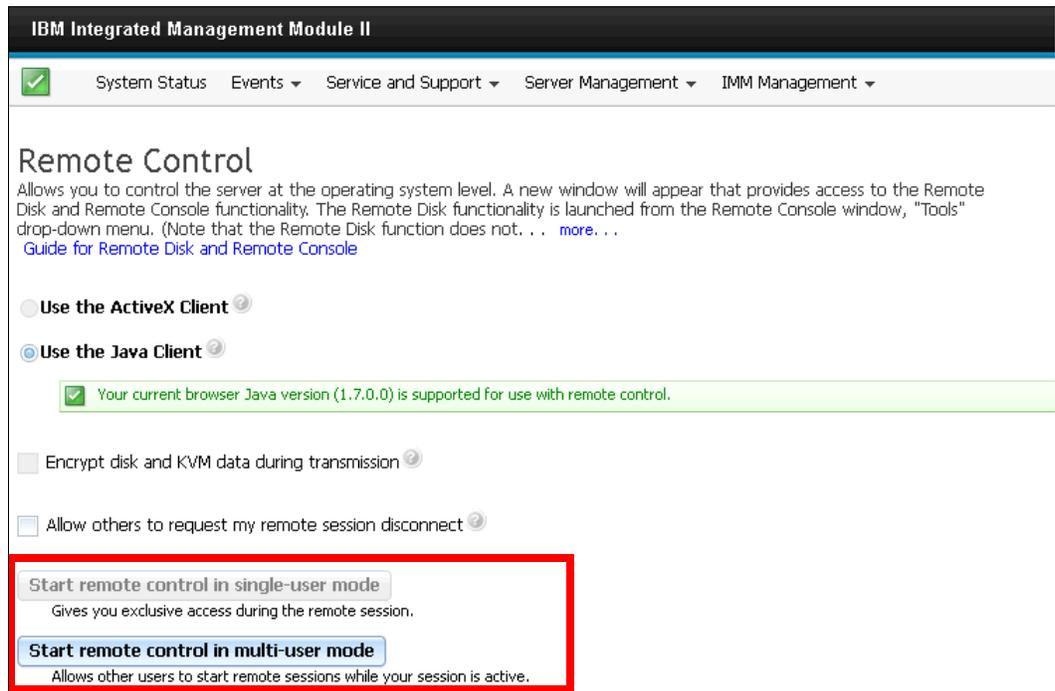

Figure 5-3 IMM2 Remote Control page
Figure 5-3 on page 76 shows the Remote Control page in the IMM2 web page.
- If you want exclusive remote access during your session, click **Start Remote Control in Single User Mode**. If you want to allow other users remote console (KVM) access during your session, click **Start Remote Control in Multi-user Mode**, as shown in Figure 5-3.